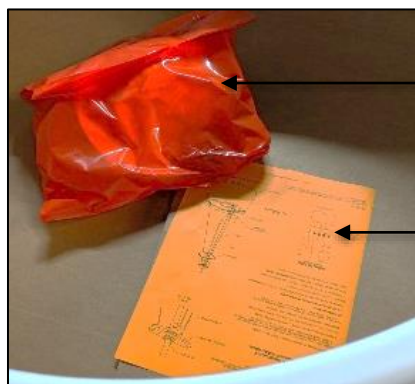

FIG.4 - RED BAG AND INSTALLATION INSTRUCTION MANUAL
2. INSTALLATION INSTRUCTION MANUAL (shown in FIG. 4) - Please completely read the install instructions before starting installation.
3. RED BAG (shown in FIG. 4)